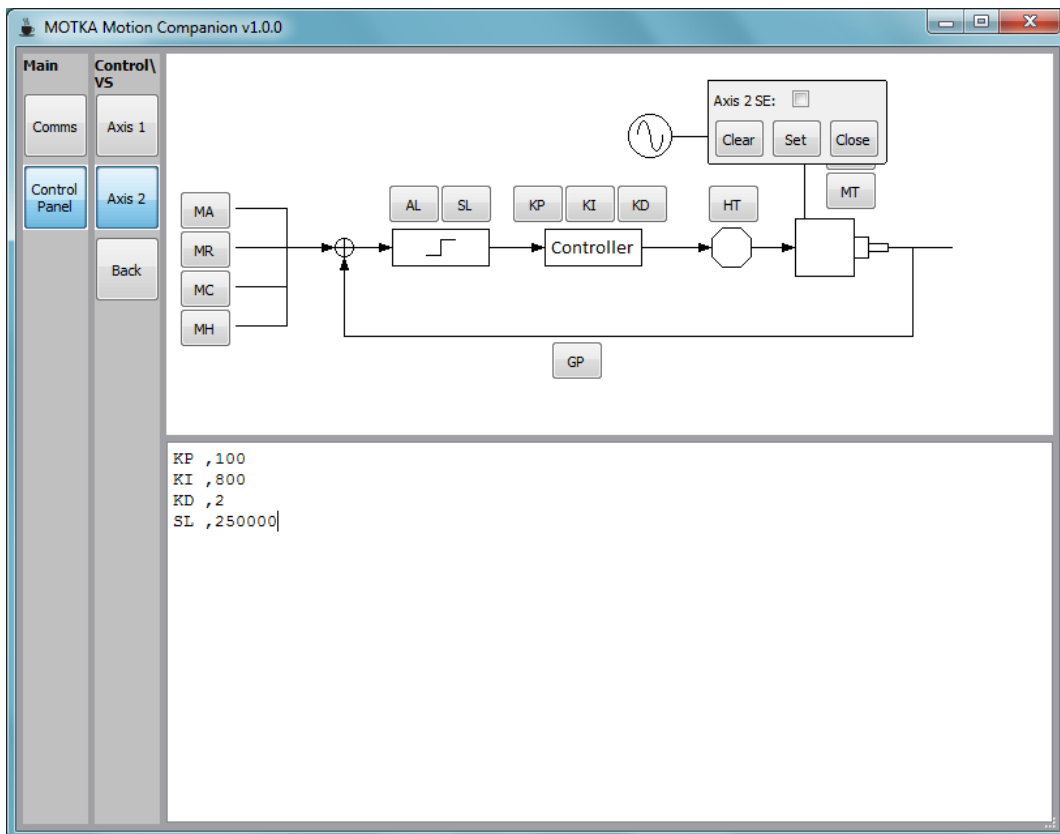

Figure 8: Generate the Servo Enable (SE) command for Axis 2
- Select the *SE* button, check the checkbox prompted in a popped dialog box. The *SE ,T* will be created in the *Command Pane* (see Figure 8) once we *Set* it. *Close* the dialog box.